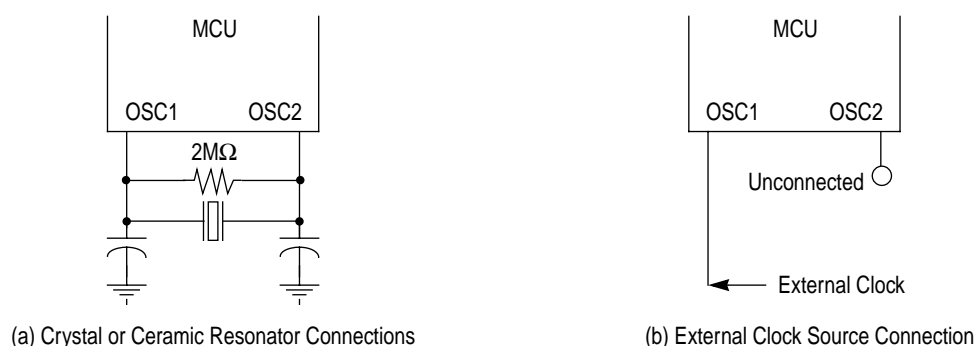

Figure 1-3. Oscillator Connections
The following paragraphs give a description of the general function of each pin assigned in Fig. 1-2 and Fig. 1-3.
1. A crystal as shown in **Figure 1-3(a)**
2. A ceramic resonator as shown in **Figure 1-3(a)**
3. An external clock signal as shown in **Figure 1-3(b)**
The circuit in **Figure 1-3(a)** shows a typical oscillator circuit for an AT-cut, parallel resonant crystal. The crystal manufacturer's recommendations should be followed, as the crystal parameters determine the external component values required to provide maximum stability and reliable start-up. The load capacitance values used in the oscillator circuit design should include all stray capacitances. The crystal and components should be mounted as close as possible to the pins for start-up stabilization and to minimize output distortion. An internal start-up resistor of approximately $2\text{M}\Omega$ is provided between OSC1 and OSC2 for the crystal type oscillator as a mask option.
In cost-sensitive applications, a ceramic resonator can be used in place of the crystal. The circuit in **Figure 1-3(a)** can be used for a ceramic resonator. The resonator manufacturer's recommendations should be followed, as the resonator parameters determine the external component values required for maximum stability and reliable starting. The load capacitance values used in the oscillator circuit design should include all stray capacitances. The ceramic resonator and components should be mounted as close as possible to the pins for start-up stabilization and to minimize output distortion. An internal start-up resistor of approximately $2\text{M}\Omega$ is provided between OSC1 and OSC2 for the ceramic resonator type oscillator as a mask option.
An external clock from another CMOS-compatible device can be connected to the OSC1 input, with the OSC2 input not connected, as shown in **Figure 1-3(b)**. This configuration is possible ONLY when the crystal/ceramic resonator mask option is selected.